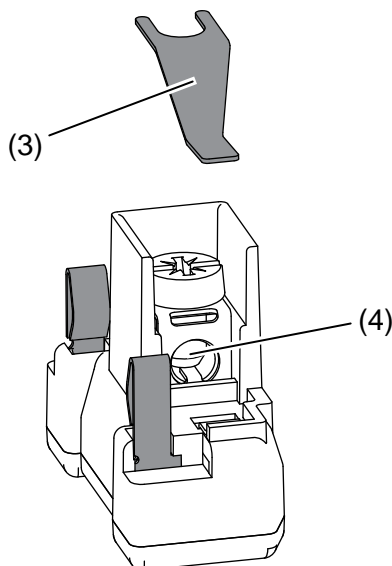

Figure 4
- Removing the contact bridge (Figure 4, 3).
- i Behind the contact bridge is the screw terminal for connecting the neutral conductor (Figure 4, 4).